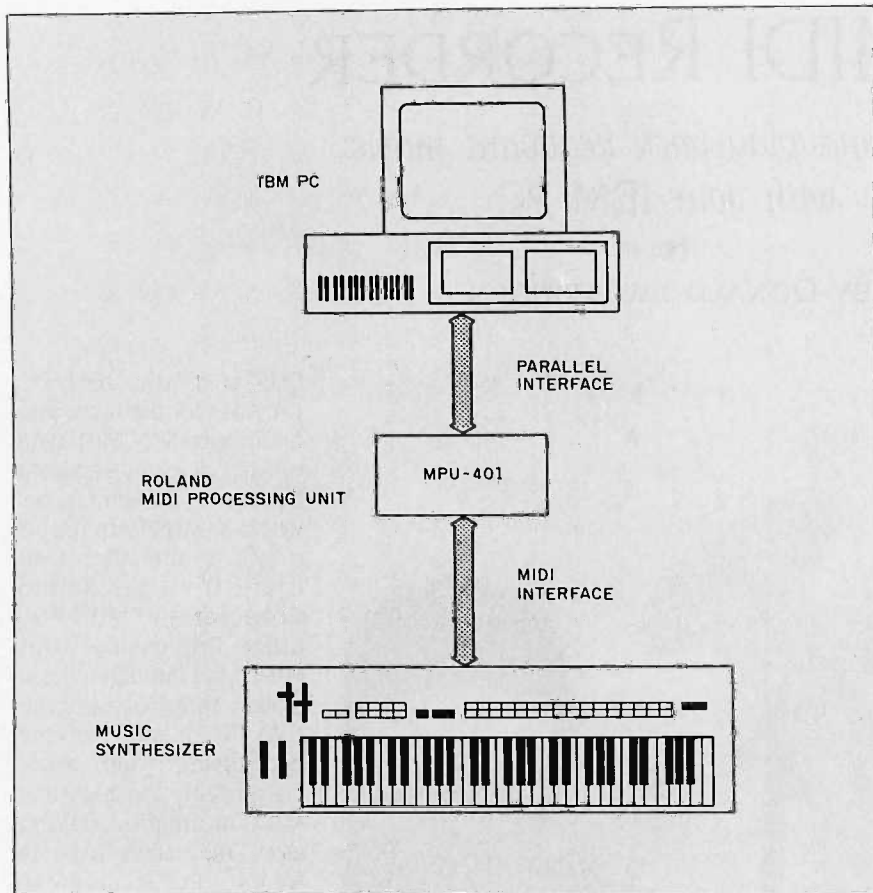

Figure 1: Interfacing a music synthesizer with an IBM PC via the MIDI Processing Unit (MPU).
FORTH for the IBM PC, provides for the recording and playback of MIDI data on any of eight separate tracks. It communicates with a MIDI-equipped music synthesizer (see figure 1) via the Roland Corporation MPU-401 MIDI Processing Unit (MPU), an intelligent controller that relieves the IBM PC of much of the processing load associated with the real-time MIDI information. (*Editor's note: The source code for MPU401.PCF is available for downloading via BYTEnet Listings. Call (617) 861-9774 before November 1; thereafter, call (617) 861-9764. You will need PC/FORTH in order to use the program.*)